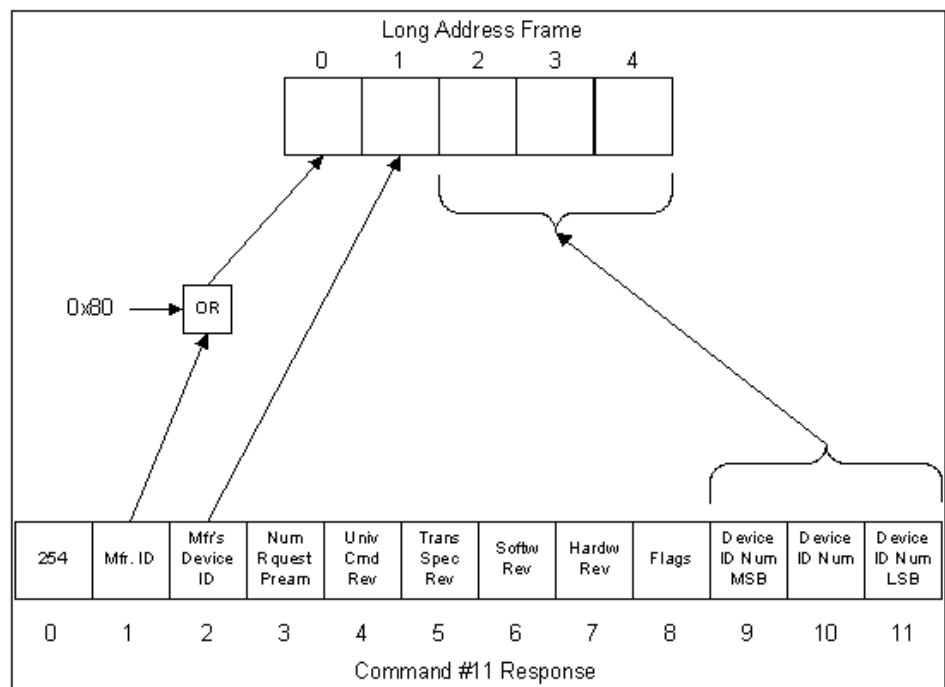

Figure 4-2 Command #11 Response to Long Frame Address
2. Extract the Manufacturer ID, Manufacturer's Device ID, and Device ID Number from the response and construct the Long Address Frame as shown in Figure 4-2.